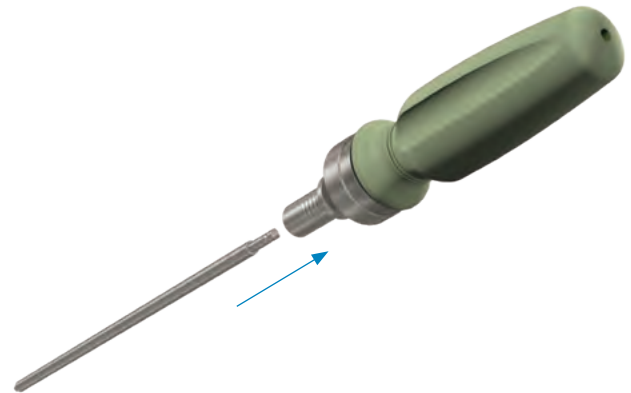

Figure 20:
- Assemble the self-retaining screwdriver shaft to the ratcheting driver handle (Figure 20).